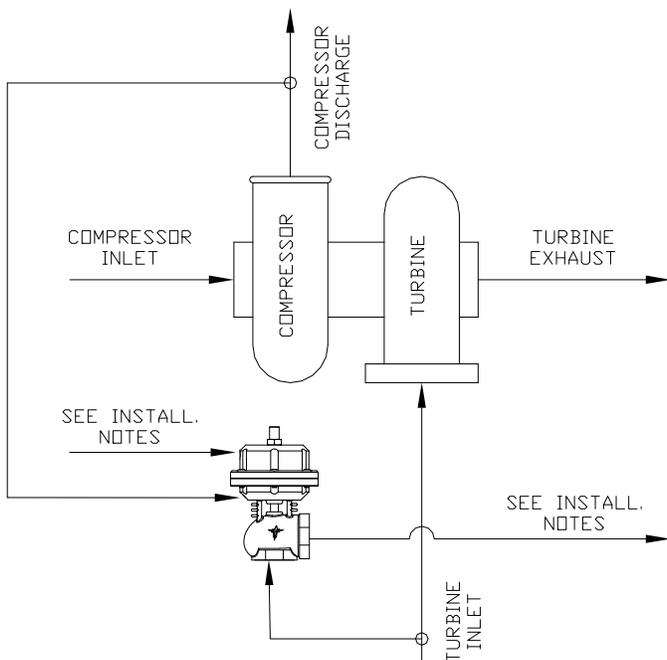

Figure 1
1. The **Evolution Wastegate** may be located anywhere between the engine exhaust and the turbine inlet of the turbocharger (refer to Figure 1), preferably near the header collector, just before the turbine housing. The wastegate may be mounted in any orientation that is convenient, either directly on a cast exhaust manifold (with integral mounting flange), or on a flange that has been welded to a fabricated manifold. In the case of a welded flange, a minimum flange thickness of 3/8" is recommended to minimize flange warpage. When choosing the location of the wastegate, careful consideration should be taken to insure that the actuator section (top half of wastegate) is NOT exposed to extreme heat. If selected location places the actuator section close to a severe heat source, the use of a heat shield is recommended.
4. Refer to the sensing line schematic shown in Figure 1. A minimum sensing line size of 1/8" ID is recommended for proper response. The wastegate actuator ports are 1/8" NPT pipe thread. Use sealant tape or liquid on all fitting threads. Sensing line material should be suitable for automotive under-hood environment, and compatible with gasoline vapor. Care should be taken in routing sensing lines to avoid damage from any sharp edges or excessive temperatures.